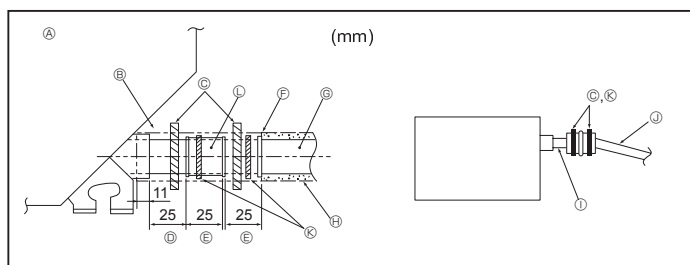

Fig. 3-2
- ① O. D. $\phi 38$ PVC TUBE for grouped piping. (9 mm or more insulation)
1. Connect the drain socket (supplied with the unit) to the drain port. (Fig. 3-2) (Fix the tube using PVC adhesive then secure it with a band.)